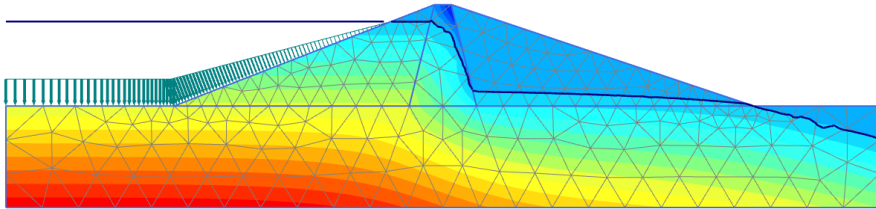

Figure 8.14 Pore pressure distribution, ( $p_{active}$ ), for high reservoir level
The results of the four groundwater flow calculations in terms of pore pressure distribution are shown in Figures 8.14 to 8.17. Four different situations were considered:
- The steady-state situation with a high (standard) reservoir level (Figure 8.14).